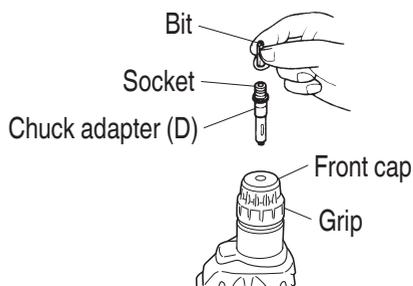

Fig. 10
4. When driving machine screws (Fig. 10)
## 5. When driving wood screws (Fig. 10 on page 33)